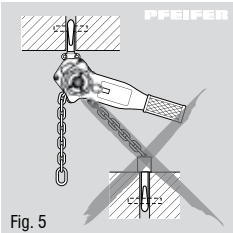

Fig. 5
- the attachment point is of adequate dimensions, and that the equipment can align itself freely. Avoid parallel shear pull (Fig. 5)!
- Parallel shear pull, i.e. lateral loading of the housing or the lower block, is forbidden (Fig. 5).